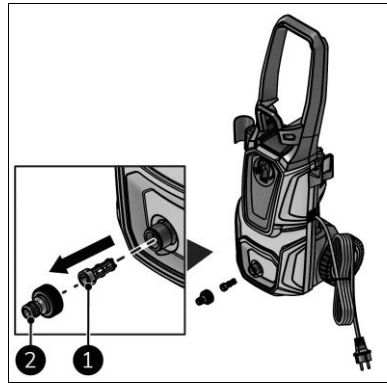

Figure 23
3. Unscrew the garden hose coupling (Figure 23, pos. 2).
4. Pull out the filter (Figure 23, pos. 1).